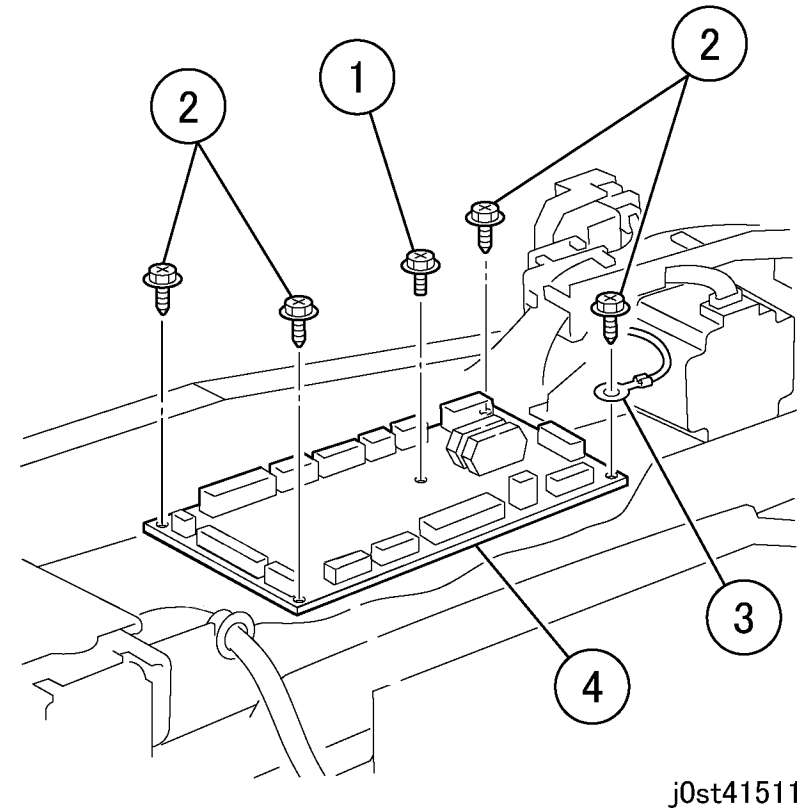

Figure 2 Removing the DADF PWB
4. Remove the DADF PWB (Figure 2).